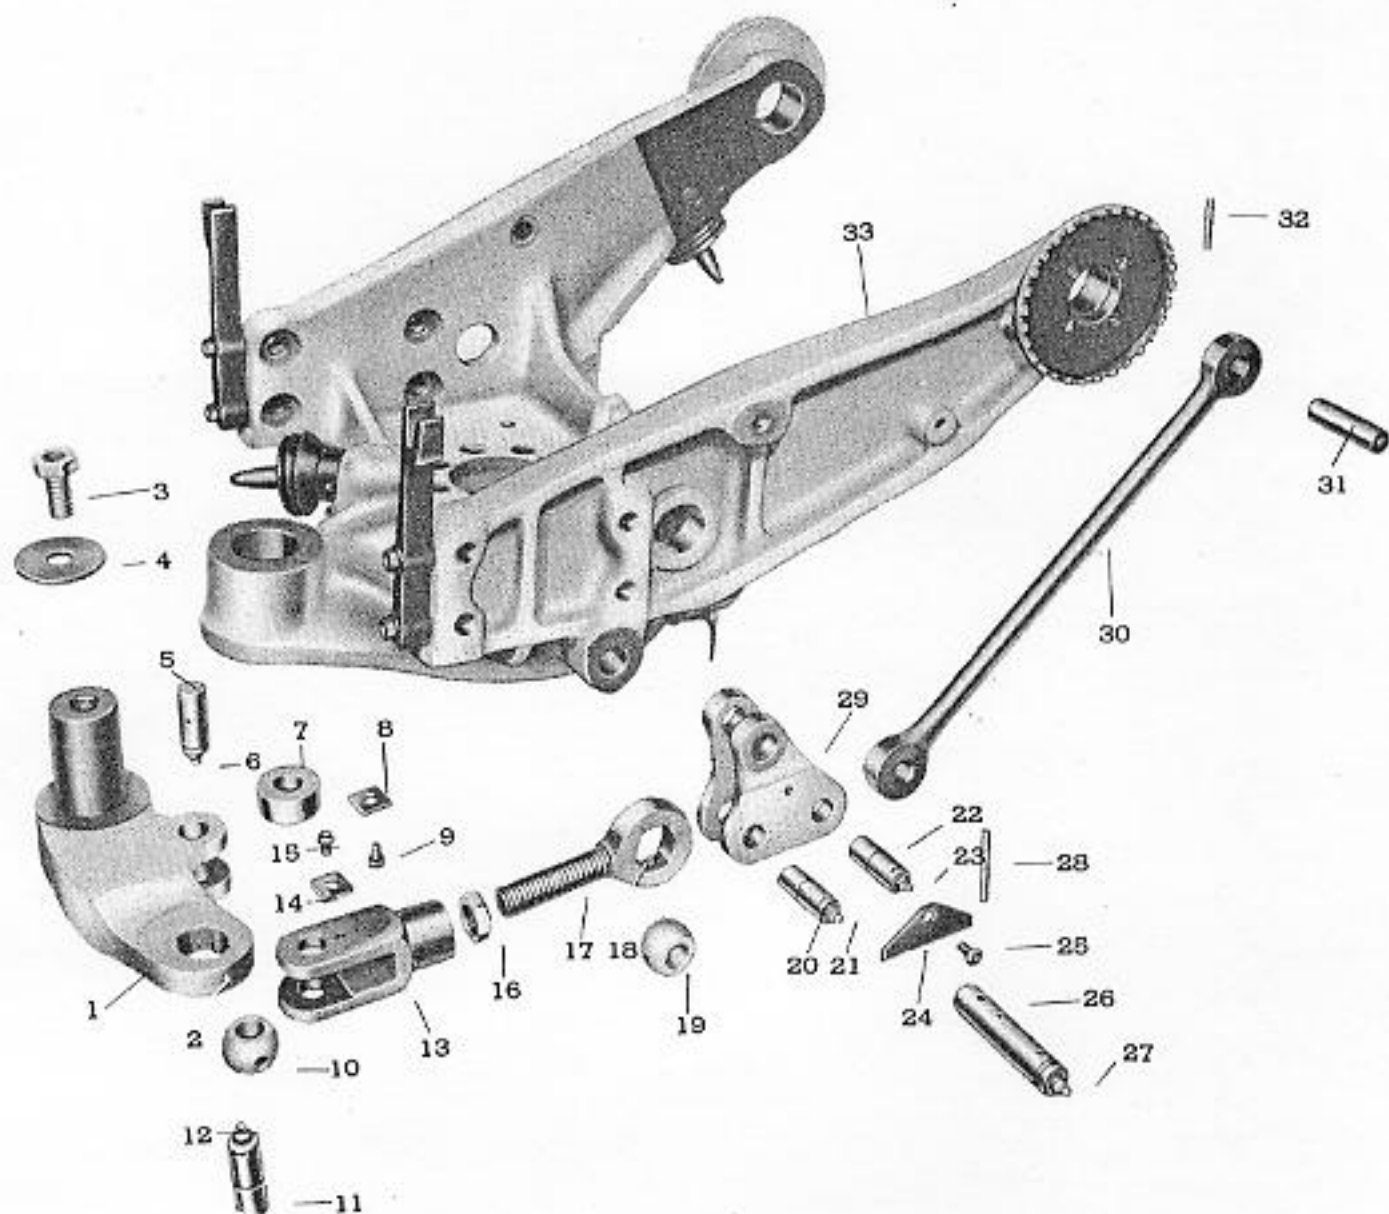

Figure 14. Exploded View of Cam Limit Stop Mechanism.
Cam Limit Stop Parts. See Fig. 14. Remove the retainer screw (482516) and pin retainer (482486) from the idler lever. It will be noted that on some gun mounts the several pin retainers are secured by a plain screw and a lock washer instead of by the self-locking screw (482516). Remove the two pin assemblies (482475) from the idler lever, with the rear stop rod (454128). The pin assemblies are made of axis pin (482476) and pressure oiler (299932). If the cams have been machined to control the guns on a particular vessel, **do not disassemble or loosen** the front stop rod (454127) or clevis lock nut (482522) from the stop-rod clevis (454125) unless one of the pieces is to be replaced. If it is necessary to separate these parts, loosen the clevis lock nut (482522) and screw the front stop rod (454127) out of the clevis. Take care not to lose the stop-rod ball out of the rod. After the rod has been removed, turn the stop-rod ball (482480) sideways in its socket and remove it. Do not remove the ball-retainer groove pin (482525) from the rod. Remove the retainer screw
Cam Limit Stop Parts. See Fig. 14. If the ball-retainer groove pin (482525) is not in the hole in the end of the cam limit stop lever (492474), drive a new one into the hole in the end of the cam stop lever until its outer end is flush with the lever and the inner end protrudes $\frac{3}{16}$ inch into the ball socket. Place a stop-rod ball (482480) in the socket so that its locating hole is engaged with the retainer pin, and turn the ball sideways so that its main hole is exposed. Align the stop-rod clevis (454125) with the lever ball and insert a stop-rod pin assembly (482475), securing the pin assembly with a pin retainer (482483) and retainer screw (482516). It will be noted that on some gun mounts the several pin retainers are secured by a plain screw and a lock washer instead of by the self-locking screw (482516). The clevis should be positioned with the retainer on the lower side to keep water from entering into the lubrication
fitting. (These parts are shown with the retainer on top in Fig. 14 only to make the picture clearer.) The stop-rod pin assembly is made of a stop-rod pin (482476) and an oiler (299932). If the ball-retainer groove pin (482525) is not in the hole in the end of the front stop rod (454127), drive a new one in until it is flush with the rod and the inner end protrudes $\frac{3}{16}$ inch into the ball socket. Thread the clevis lock nut (482522) onto the front stop rod and screw the stop rod into the clevis. Place a stop-rod ball (482480) in the socket so that its locating hole is engaged with the retainer pin, and turn the ball sideways so that its main hole is exposed. Attach the front stop-rod assembly (482487) to the stop-rod idler lever, and also attach one end of the rear stop rod (454128) to the idler lever, using a pair of stop-rod pin assemblies (482475). These assemblies consist of a stop-rod pin (482476) and a pressure oiler (299932). Secure the pin assemblies with the pin retainer (482486) and a retainer screw (482516) threaded into the idler lever. Screw a pressure oiler (299932) into the tapped hole on the cam stop lever boss on the front of the carriage. Coat the thread of the oiler with white lead or other sealer.
c. Assemble the cam limit stop roller (482484), the roller shaft assembly (482481), which is composed of a shaft (482482) and an oiler (299932), the shaft retainer (482483), and a retainer screw (482516) in the cam limit stop lever. See Fig. 14.